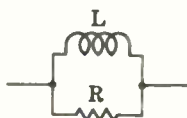

Fig. 37.
*Resistance and inductance in parallel (Fig. 37)*